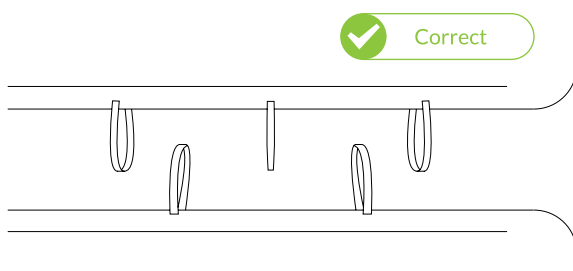
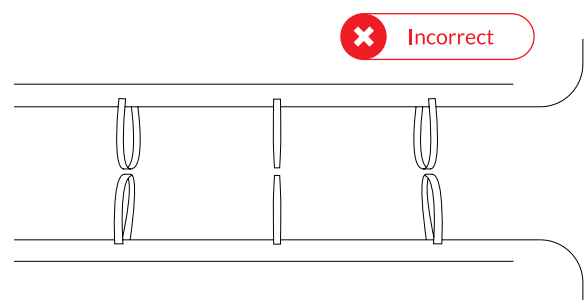

Fig 49 - Air Toggle loops should be in a staggered formation from each Platform
Fig 50 - Air Toggle loops shouldn't be aligned opposite each other
2. Before commencing joining, it is important to assess how you will be joining each platform and that the Air Toggle loops of each platform will be staggered in between each other (Fig 49).
3. T-shape and end-to-end connections all link with five Air Toggle loops, three on one end of the Platform and two from the other (Fig 49).
5. For side-by-side connections the Air Toggle loops of each platform must be staggered down the length of Platforms (Fig 49) and should never be opposite each other (Fig 50) (Air Toggles for side linking are available to purchase separately).